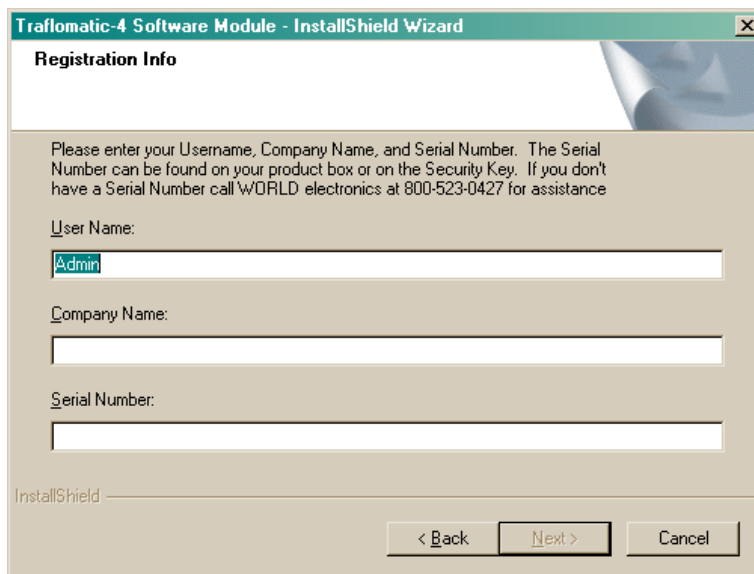

Figure 15
- After selecting **Next**, a **Registration Info** window will appear as in Figure 15. In this window the user will need to fill in the fields beside **User Name:**, **Company Name:**, and **Serial Number:**. The Serial Number can be obtained from a label located on the Trafromatic-III and IV Module's Security Key. A second location where the serial number can be found is the side of the Trafromatic-III and IV Software Module's Product Box.